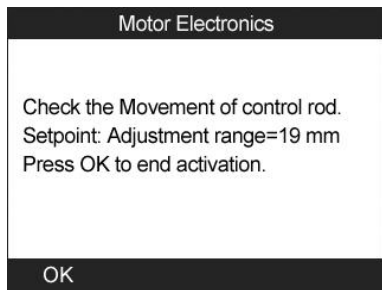

Figure 11.37
- b) Select **OK** to activate swirl flaps and the tool displays as below. (Figure 11.37) Press **OK** button to end the activation and exit.